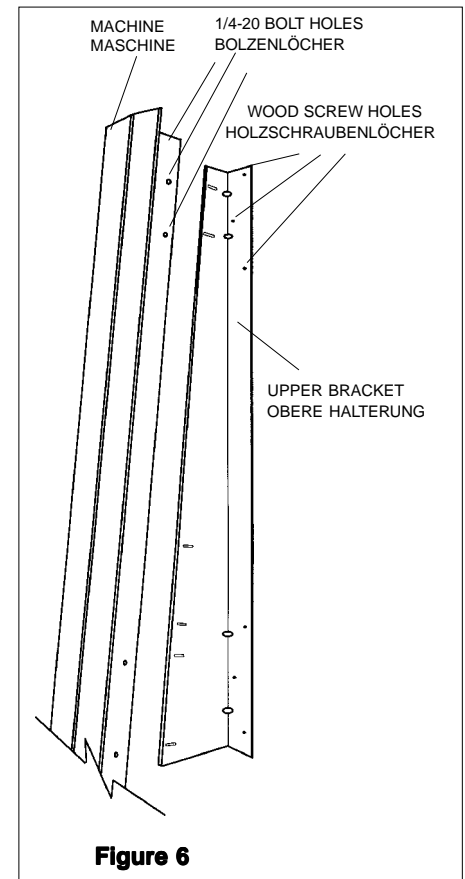

Figure 6
1. Hold the **UPPER BRACKET, Figure 6**, against the wall with the top about 93" (2360mm) above the floor. Use a level to be sure it is vertical. Mark the wall through the 6 mounting holes. Drill pilot holes in the wall and install the **UPPER BRACKET** with six hex head wood screws from the parts bag, shown at **A** on the facing page.
3. Lift the machine and attach it to the **UPPER BRACKET** with four 1/4-20 bolts, washers, lock washers, and nuts shown at **H**. See **Figure 6**.